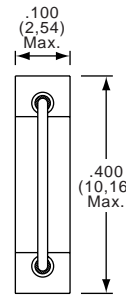

Figure 1
* For tin-plated version of Figs. 1&2, use suffix "T" after part number.